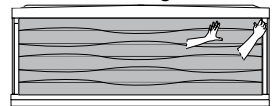

Figure 13.3b
3. Remove the center panel. Grab either the top left or top right side of the front center panel, Figure 13.3b. Gently pull the cabinet forward to unsnap it from the holding clips. Make sure to support the cabinet as you work your way down the side to completely unclip it from the hot tub frame. Once completely unclipped, tilt from the hot tub frame. Once completely unclipped, tilt